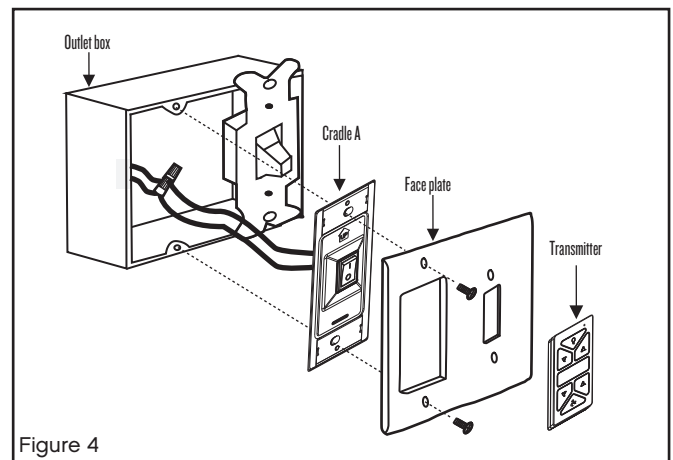

Figure 4
- 2 Connect the black lead wires from the switch in cradle A to the black wires in the switch box. Hot input wire to one of the cradle switch leads. Power lead to the fan is connected to the remaining switch lead. (Fig. 4)
An UPWARD airflow moves warmer air off the ceiling area as shown in Figure 4. This allows you to set your heating unit on a cooler setting without affecting your comfort.